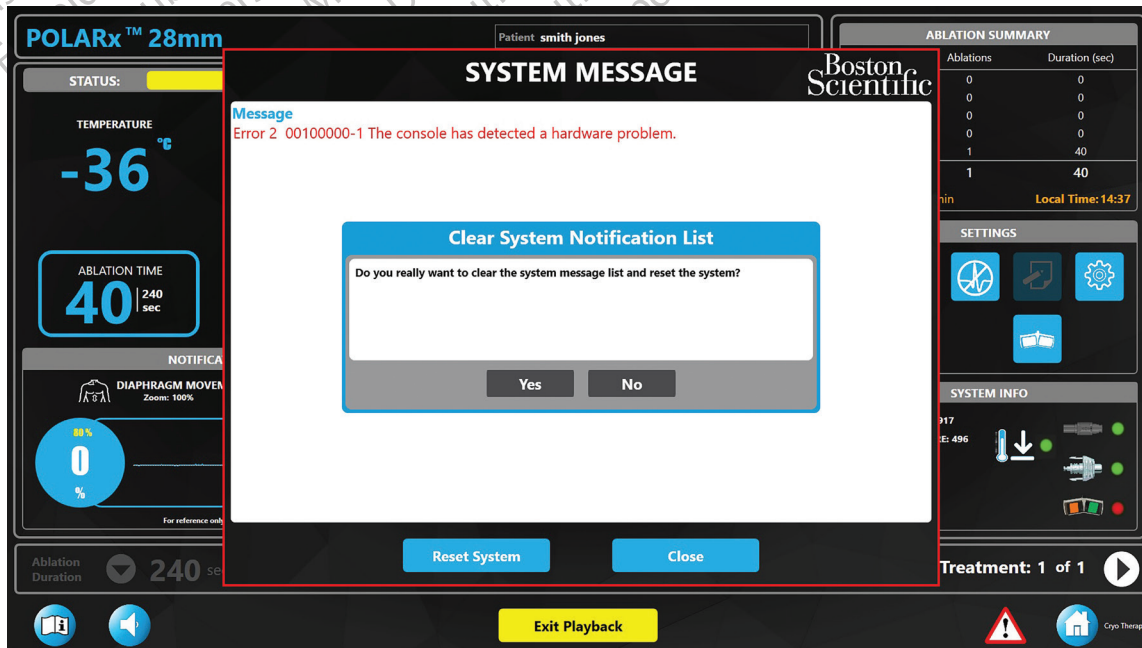

Figure 22. Clear System Notifications List Window
- Press the **Reset System** button to clear all active messages (see Figure 22).